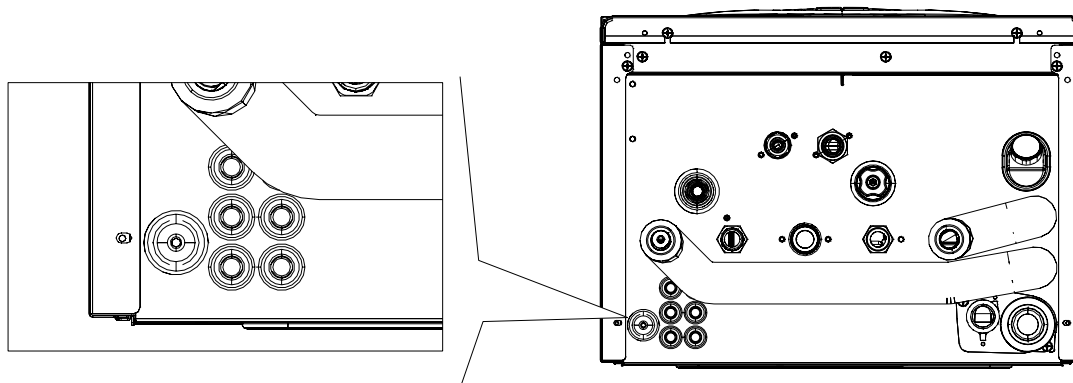

fig. 35 -
2. Connect the cables to the appropriate terminals as shown on the diagram, taking care to pass the cables through the cable glands on the bottom of the boiler (see "fig. 35 -" on page 29)